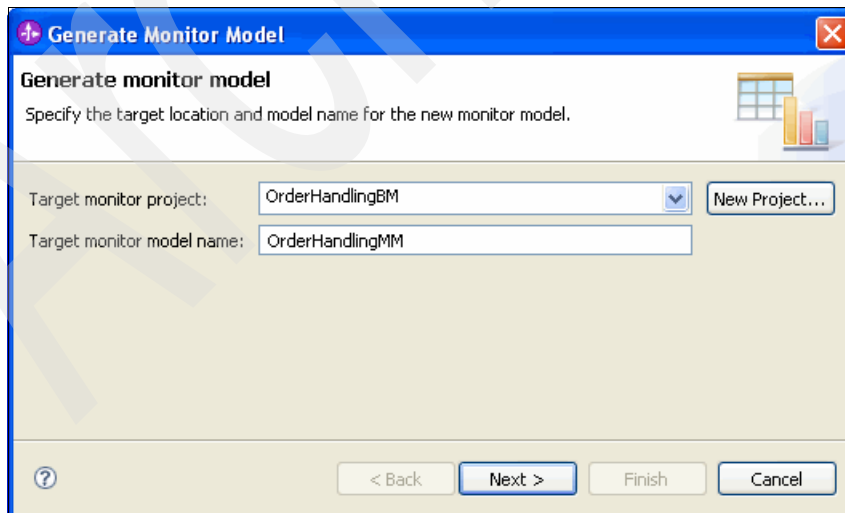

Figure 8-49 Setting the monitor model name
6. In the Generate Monitor Model – Create a business monitoring project window (Figure 8-49):